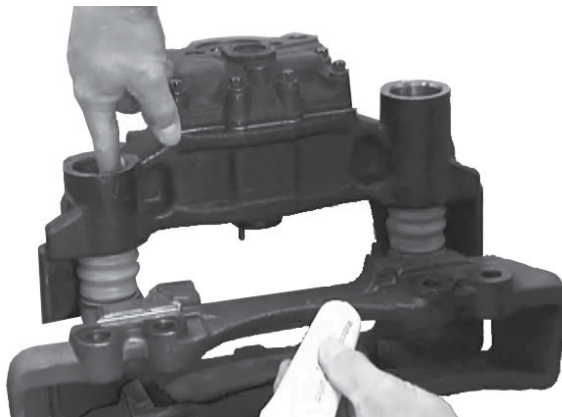

Figure 72: Greasing bore of guide pin cap
6. **Grease** the bores for the guide pin caps in the brake caliper (Figure 72).